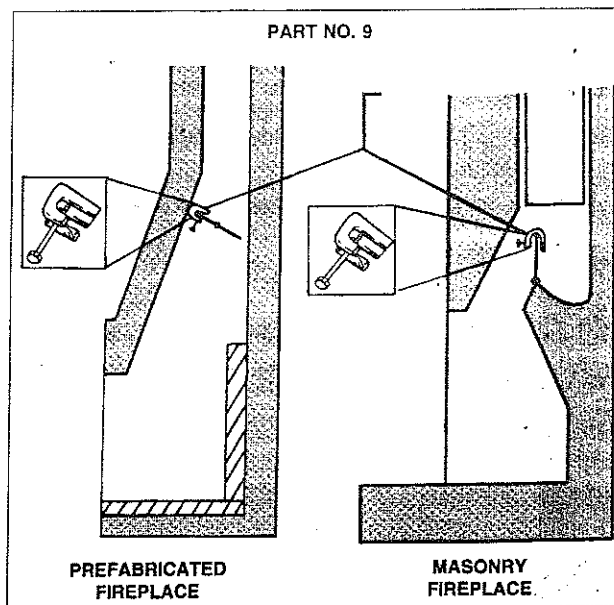

Figure 2. Damper Stop Clamp
- B. Open fireplace damper fully and install Damper Stop Clamp with 1/4 x 2" set screw (Part #9). This clamp is designed to prevent accidental closure of the damper while in use. (See Figure 2.) Should the Damper Stop Clamp supplied not fit, a permanent damper stop clamp must be installed that will keep the damper open at a distance of not less than 1 1/2".